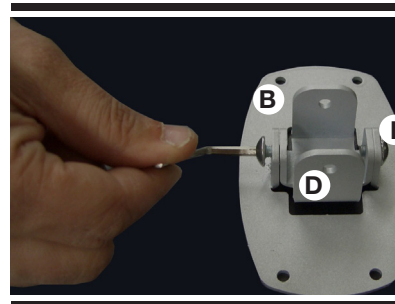

Fig. 3
Take items (B) and (D) and join them with two screws (I), like on Fig. 3.